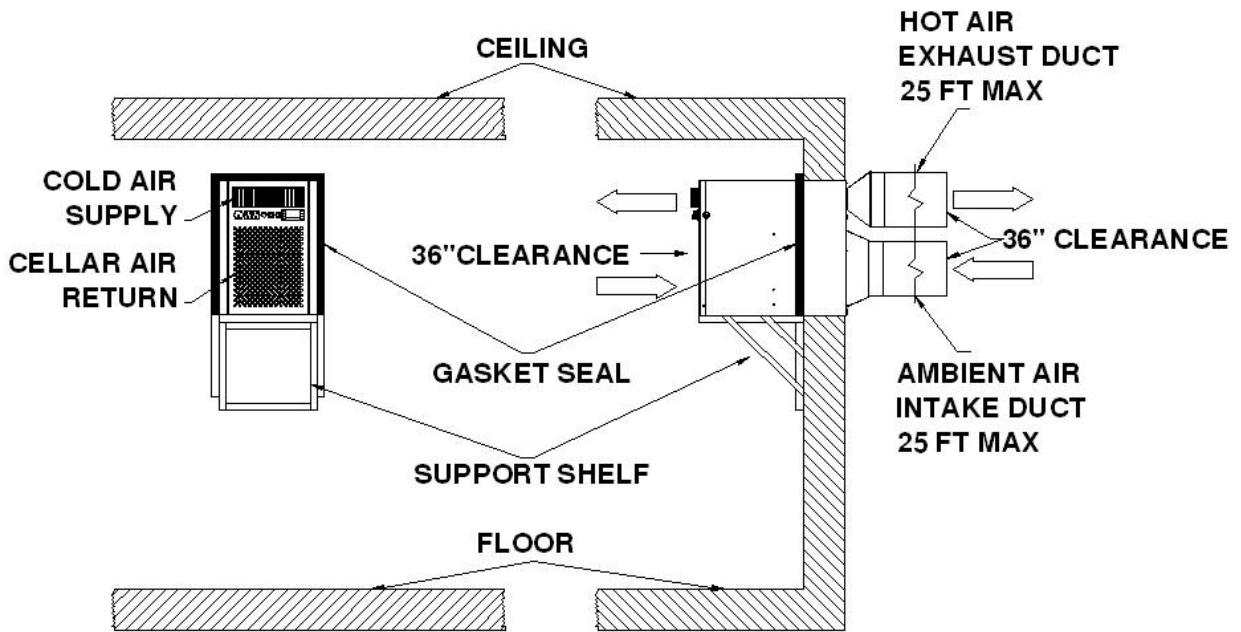

Fig. 4 Flush to the outside of wall with hot-air exhaust & ambient-air intake ducts
2. Through-wall installation with hot-air exhaust and ambient-air intake ducts (Fig. 4 & 5)